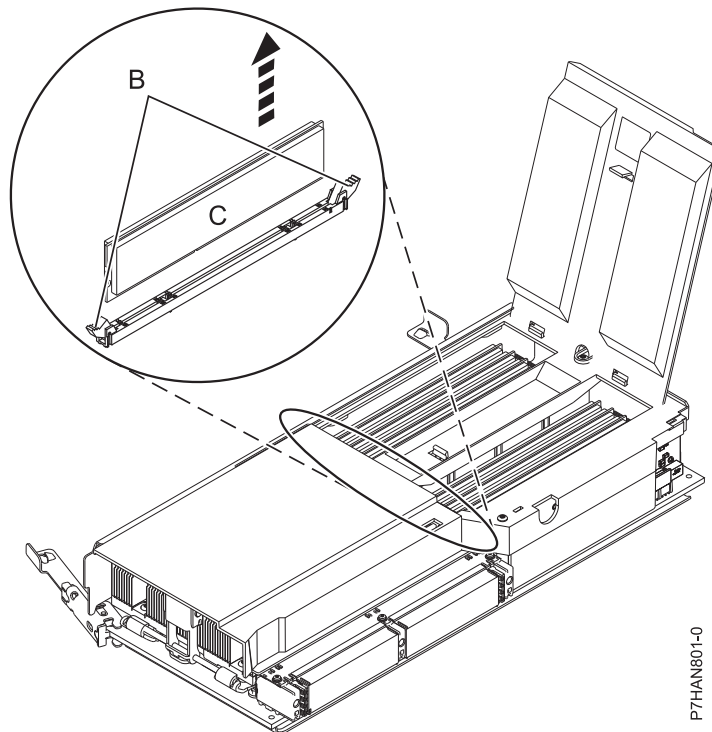

Figure 43. Removing a memory module
11. Unlock the memory module by pushing the locking tabs (**B**) out and down, as shown in Figure 43. Lift the memory module (**C**) out of the connector. The lever action of the tabs forces the memory module out of the connector.